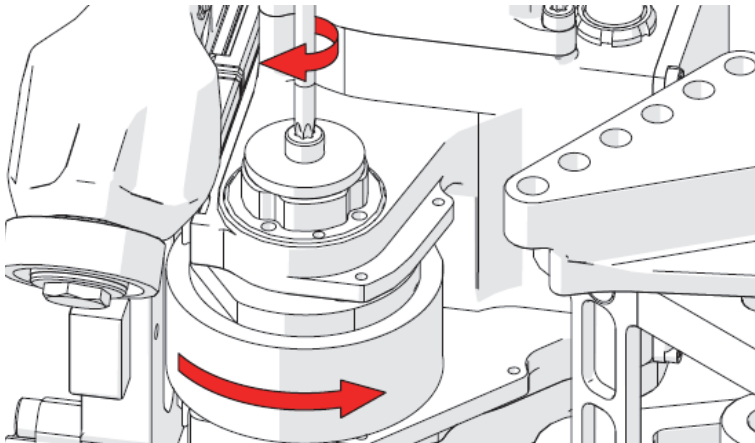

Figure 2-20 Separate the axle from the wheel
22. Holding the wheel, use a T25 Torx driver to thread the screw until the axle separates from the wheel (see Figure 2-20 on page 96).